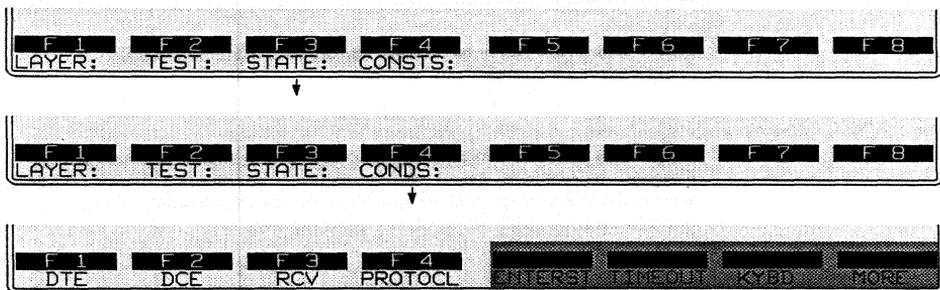

Figure 39-5 The softkeys for DTE and DCE are used to monitor LAPD protocol events at Layer 2.
- A group of conditions and actions at Layer 2 on the Protocol Spreadsheet that facilitate LAPD programming. Figure 39-5 shows the softkey path to the first rack of condition softkeys when the LAPD package is loaded in at Layer 2.
When the LAPD personality package is loaded in (via the Layer Setup screen), a set of conditions checks DTE and DCE leads. This set of conditions is accessed by the DTE and DCE selections on the first rack of condition softkeys at Layer 2. See Figure 39-5.